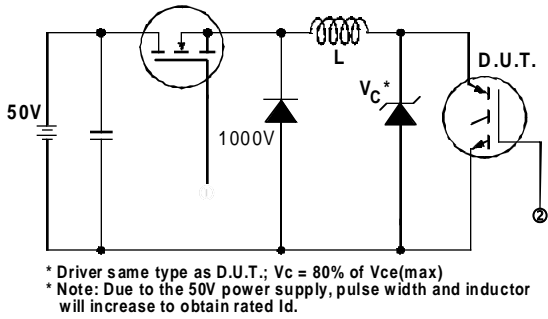

Fig. 13a - Clamped Inductive Load Test Circuit
② $V_{CC} = 80\%(V_{CES}), V_{GE} = 20V, L = 10\mu H, R_G = 10\Omega$, (See fig. 13a)
③ Repetitive rating; pulse width limited by maximum junction temperature.
④ Pulse width $\leq 80\mu s$; duty factor $\leq 0.1\%$.
⑤ Pulse width 5.0 μs , single shot.